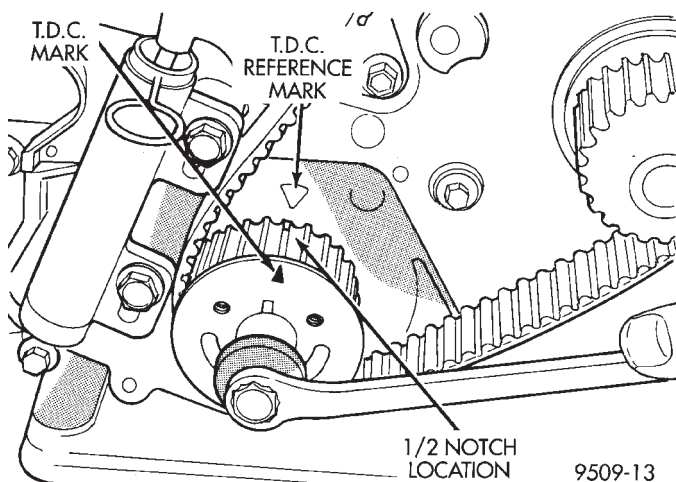

Fig. 62 Adjusting Crankshaft Sprocket for Timing Belt Installation
(6) Move crankshaft to 1/2 mark before TDC (Fig. 62) for belt installation.
(7) Install timing belt. Starting at the crankshaft, go around the water pump sprocket and then around the camshaft sprocket.
(8) Move crankshaft sprocket to TDC to take up belt slack. Install tensioner to block but do not tighten fasteners.